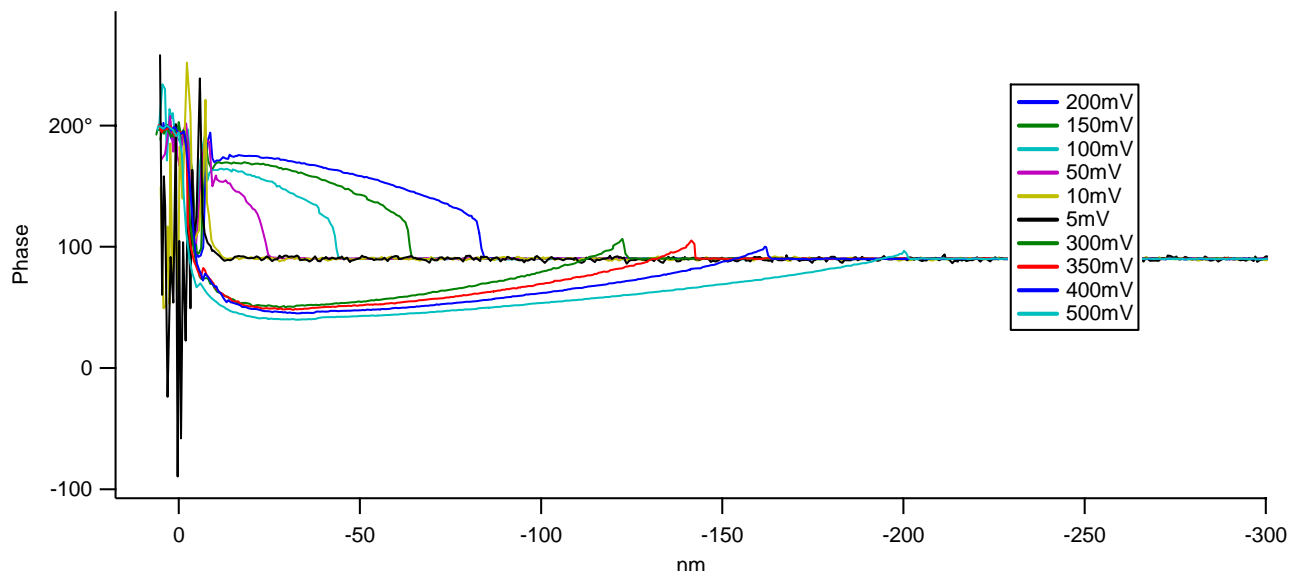

Figure 11.4.6.2: AC force curves on glass as a function of Drive Amplitude
As the drive amplitude is varied, the degree of net attractive and net repulsive interaction the tip has with the surface can change. Figure 11.4.6.1 shows various AC force curves acquired on mica at varying drive amplitudes (Figure 11.4.6.1A). Notice the amount of net repulsive and net attraction the tip has with the surfaces varies with distance from the surface.
The data in Figure 11.4.6.1 was obtained by Roger Proksch, one of our most active researchers at AR regarding AC force curves, and DualAC techniques – so of course this is a very clean looking data set. Figure 11.4.6.2 shows the author's attempt at a similar data set. Using an Olympus AC240 Si lever and a clean glass slide as a substrate, varying the drive amplitude gives the responses seen. Here, it is important to point out that the force distance definition is important- notice the 'Phase freakout' close to the surface on approaches.
The author's next step was to do some 'point and click' AC force curves at constant drive amplitude on a heterogeneous surface known to have different net repulsive /attractive properties. Figure 11.4.6.2 shows some of these 'point and click' AC force curves defined from a phase image of water based latex paint (Sherwin Williams). The sample was imaged with an Olympus AC 240 ($k \sim 1.6 \text{N/m}$; $\sim 70 \text{kHz}$) in air in repulsive mode; the free air phase was $\sim 64^\circ$ (depicted by orange dashed line). The force curves were acquired at constant (drive) amplitude (same as the image) and the trigger point was 5 nm to reduce the amount of Phase bi-stability (mode hopping) under applied load. *There are clear differences on the surface*- notice that points 2 & 4 (black and blue, respectively) are similar during the approach (extension) curves, there is an initial attraction to the surface, then repulsion; at some point, the tip becomes closer to the surface, it flipped back to attractive mode. Point 3 (red) never goes into the repulsive regime. *Aside from these observations, the author will not comment further on interpretation.*
Figure 11.4.6.3: AC point and click Force curves on heterogeneous sample: A) Phase image of paint sample with location of user defined force curves; B) individual AC force curve Phase vs. distance (Z)- orange dash line indicates Free Air Phase values of ~ 64 degrees. (yes, that is the di color table on the 3D)
• Figure 11.4.6.2 shows a simple function that was generated in the Editor- many segments were added and set to tell the cantilever to deflect to 176 nm, hold for 5 seconds with an oscillation of 10 Hz with 7.06nm peak to peak amplitude at 90° phase, pull back a bit and hold again for 3 s at 8 Hz with 31.52 nm peak to peak amplitude 0°, then return to a negative deflection. Note that this was just made up and unlikely to work in deflection unless some major adhesion force could grab the tip for a 150nm deflection in a real expt.